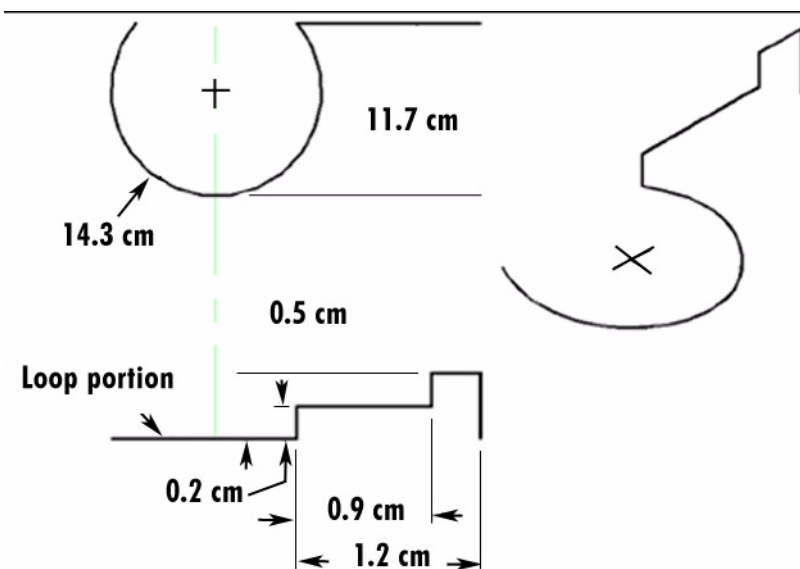

Figure 149 Counter electrode
The counter electrode (CE) is typically made from platinum-iridium wire (Figure 149). It should encompass as much of the inner rim of the liquid cell as possible. It may be useful to make the diameter of the electrode slightly larger than the diameter of the cell, so that the electrode will hold itself in place against the walls of the cell.